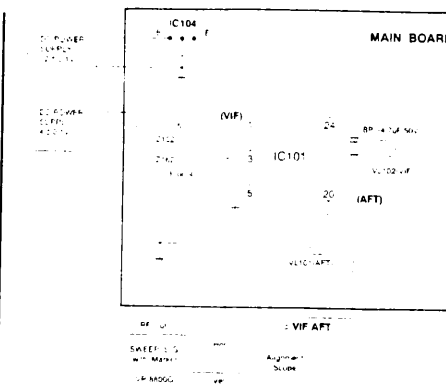

Fig 1.
- Connect the measuring equipment to the TV as shown in fig. 1.